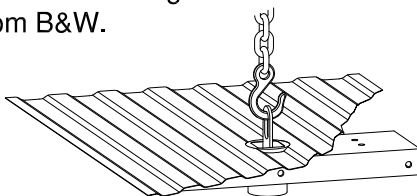

Figure A1
4. **Prepare a lifting device (optional).** The purpose of the device is to safely hold the hitch in position during part of the installation. See Figure A1 for an example. A simple mechanical lifting device is available for purchase from B&W.